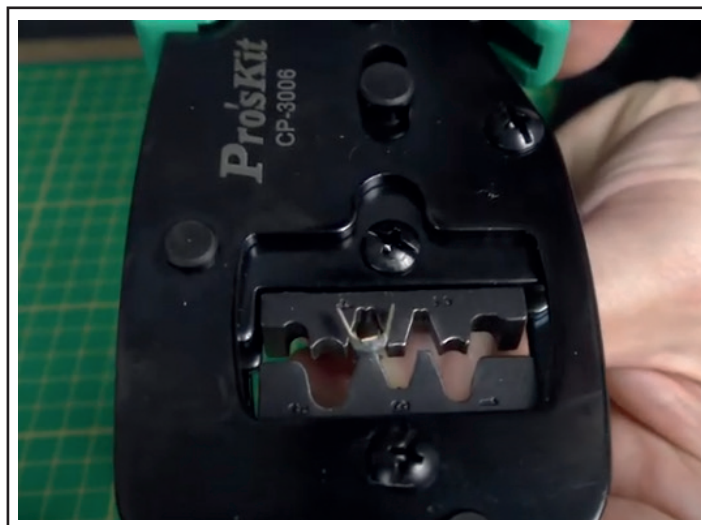

Figure 7 - Insertion of Terminal on the Crimper
- 1.9. Insert the terminal into the die set of the crimper and hold the terminal (see figure 7).